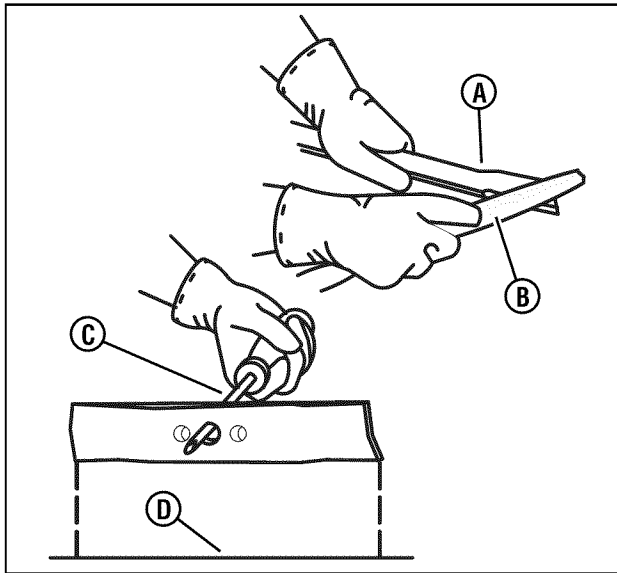

Figure 23: Sharpening the blade
4. Sharpen the blade (A, Figure 23, next page) with a file (B). Make sure you keep the original beveled cutting edge.
5. Make sure the blade is balanced. Use a screwdriver (C) and hold the blade parallel to the ground (D) as shown. A blade that is balanced will stay parallel to the ground. If the blade is not balanced, the heavy end will rotate toward the ground. Sharpen the heavy end until the blade is balanced.